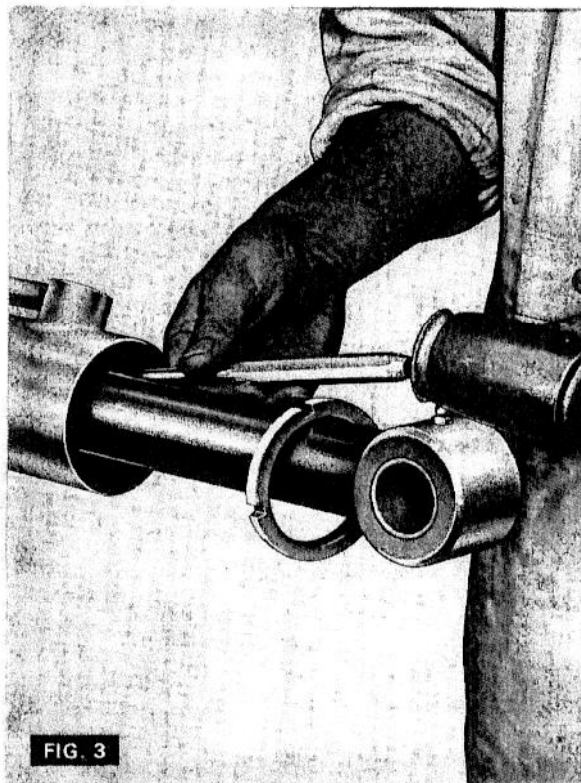

FIG. 3
4. (Fig. 3) Tap the bearing approximately 1½" into the barrel to allow removal of the lock ring.